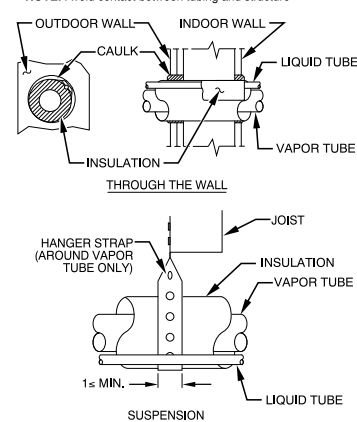

Fig. 1 – Piping Installation
5. When passing refrigerant tubes through the wall, seal opening with RTV or other pliable silicon-based caulk. (See Fig. 1.)
7. Do not suspend refrigerant tubing from joists and studs with a rigid wire or strap which comes in direct contact with tubing. (See Fig. 1.)
9. When necessary, use hanger straps which are 1 in. (25.4 mm) wide and conform to shape of tubing insulation. (See Fig. 1.)